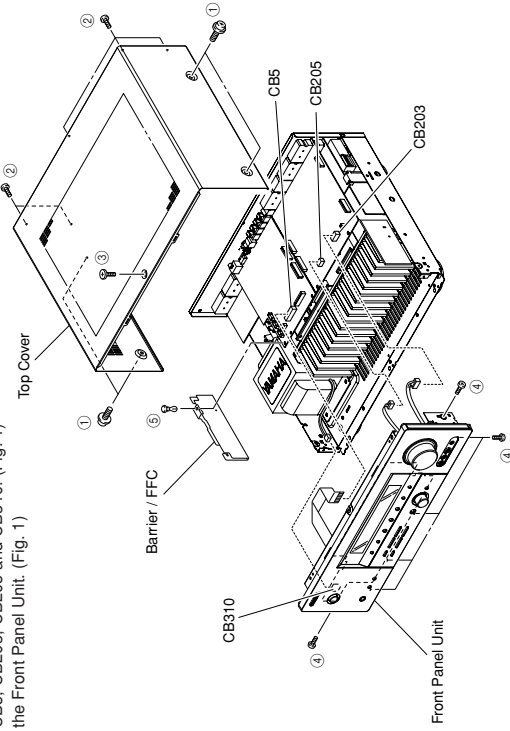

Fig. 1
- Remove 4 screws (1), 5 screws (2) and 1 screw (3). (Fig. 1)
- Slide the Top Cover rearward to remove it. (Fig. 1)
- Remove 6 screws (4). (Fig. 1)
- Remove a push rivet (5). (Fig. 1)
- Remove the Barrier/FFC. (Fig. 1)
- Remove CB5, CB203, CB205 and CB310. (Fig. 1)
- Remove the Front Panel Unit. (Fig. 1)